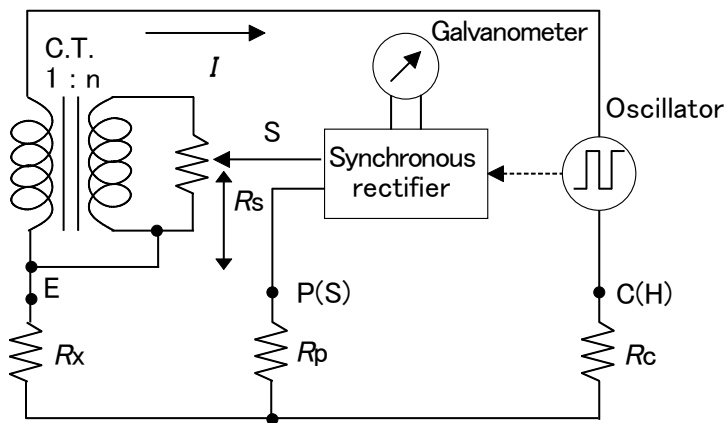

Figure 1 Measurement Principle (3-pole method)
(1) Normal measurement (3-pole method)
Figure 1 shows the basic circuit principle for earthing resistance measurement. The measuring current I , driven by the oscillating voltage of the oscillator, flows through the loop formed as follows: oscillator R_c R_x C.T. If the galvanometer is balanced, the voltage between the measurement terminals E – P(S) is taken as E_x , and the resistance between the measurement terminal E and the slider S of the variable resistor is taken as R_s . The voltage drop at the variable resistor is E_s .